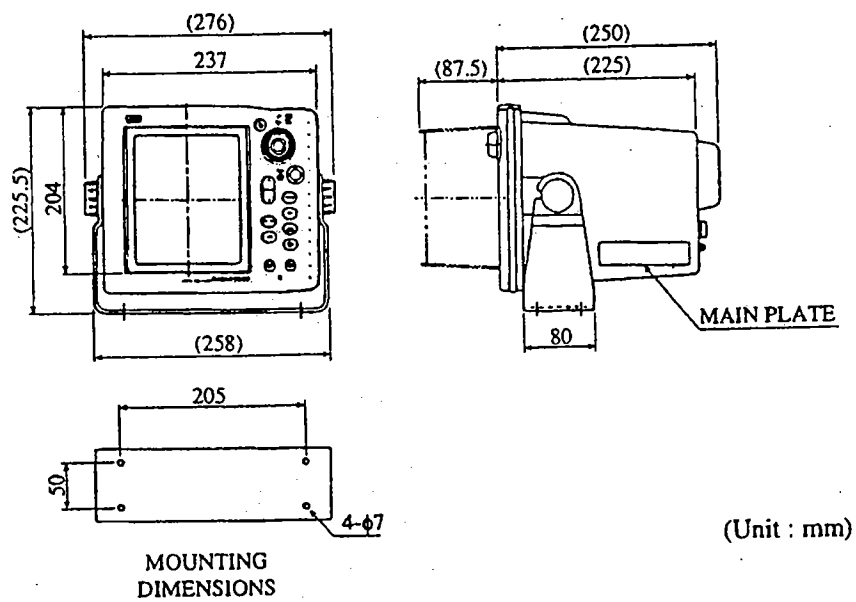

FIG. 102 DISPLAY MOUNTING DIMENSION
- Fig. 102 MOUNTING DIMENSIONS OF DISPLAY UNIT NCD-3744